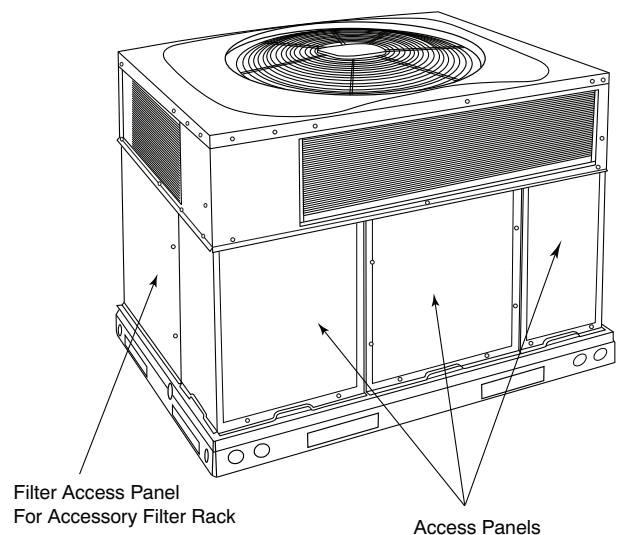

Fig. 2 – Accessory Filter Rack Access Panel
1. Remove the filter access panel (See Fig. 2) using a 5/16-in. nut driver.